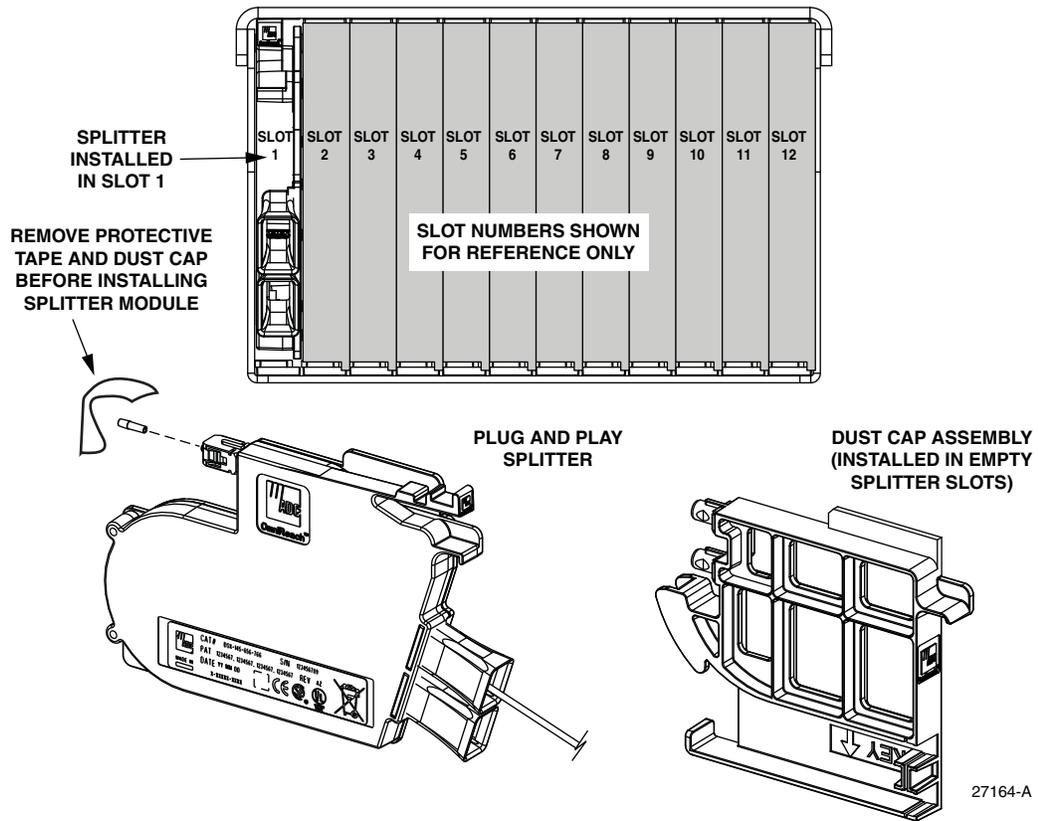

Figure 2. Installing Splitter
Installing a plug-and-play splitter involves a couple of steps: removing the protective tape and dust cap as shown in Figure 2 and installing the splitter. Use the following procedure.
1. Locate the splitter (Figure 2) and identify the mounting slot within the splitter compartment where the plug-and-play splitter will be installed.